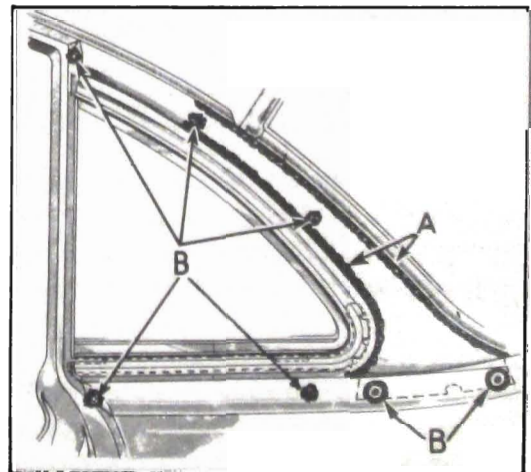

Figure 13-23—Sealing of Ventilator Header Molding
4. Before installing header molding, apply continuous heads of 3-M Autobody Sealer to metal flanges of rear quarter pillar from lower corners upward as indicated at "A" in figure 13-23. Circle each screw hole with sealer as indicated at "B."